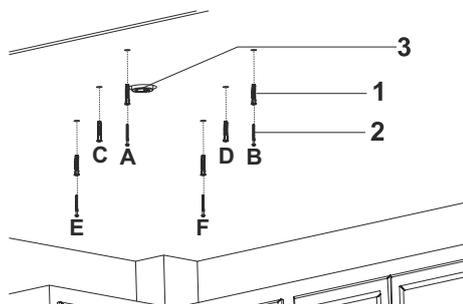

Fig. 12
2. Hammer in the Ø10 mm dowels to the holes you drilled (Fig. 12).
Attach the 5,5x60 wall mount screws in the dowels on A, B, E, F points (Fig. 12).
Perform the installation of the socket in accordance with the installation template (Fig. 12).